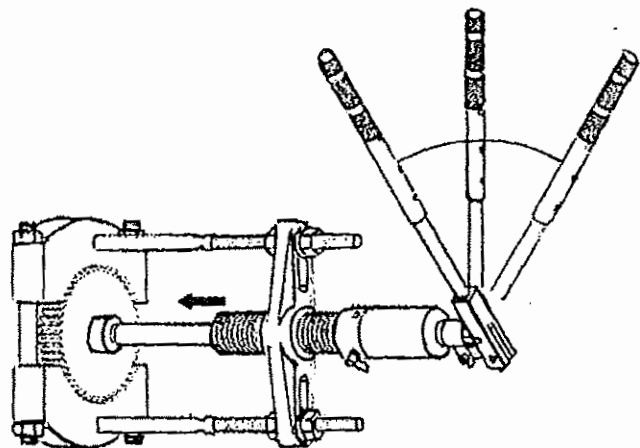

Figure 5.
6. Hold the puller with one hand and pump the handle with the other hand, advancing the piston until the part is removed. See Figure 5.